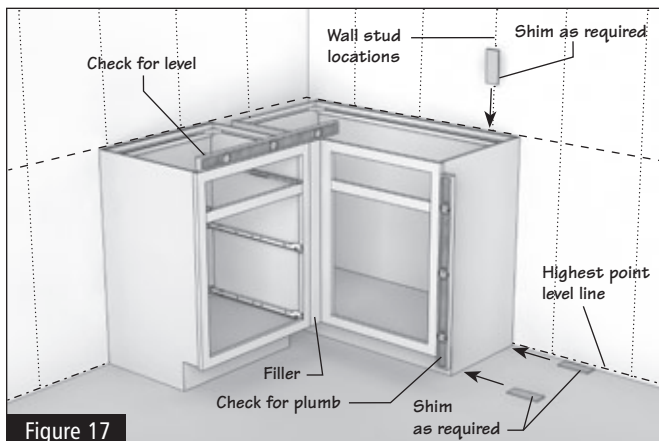

Figure 17
- 6.2** Start with the corner cabinet (if there is one) and place it in position where it is to be mounted. When using a blind base cabinet, make sure the cabinet is pulled out from the corner the appropriate distance as called for in your kitchen plan. (Figure 17)